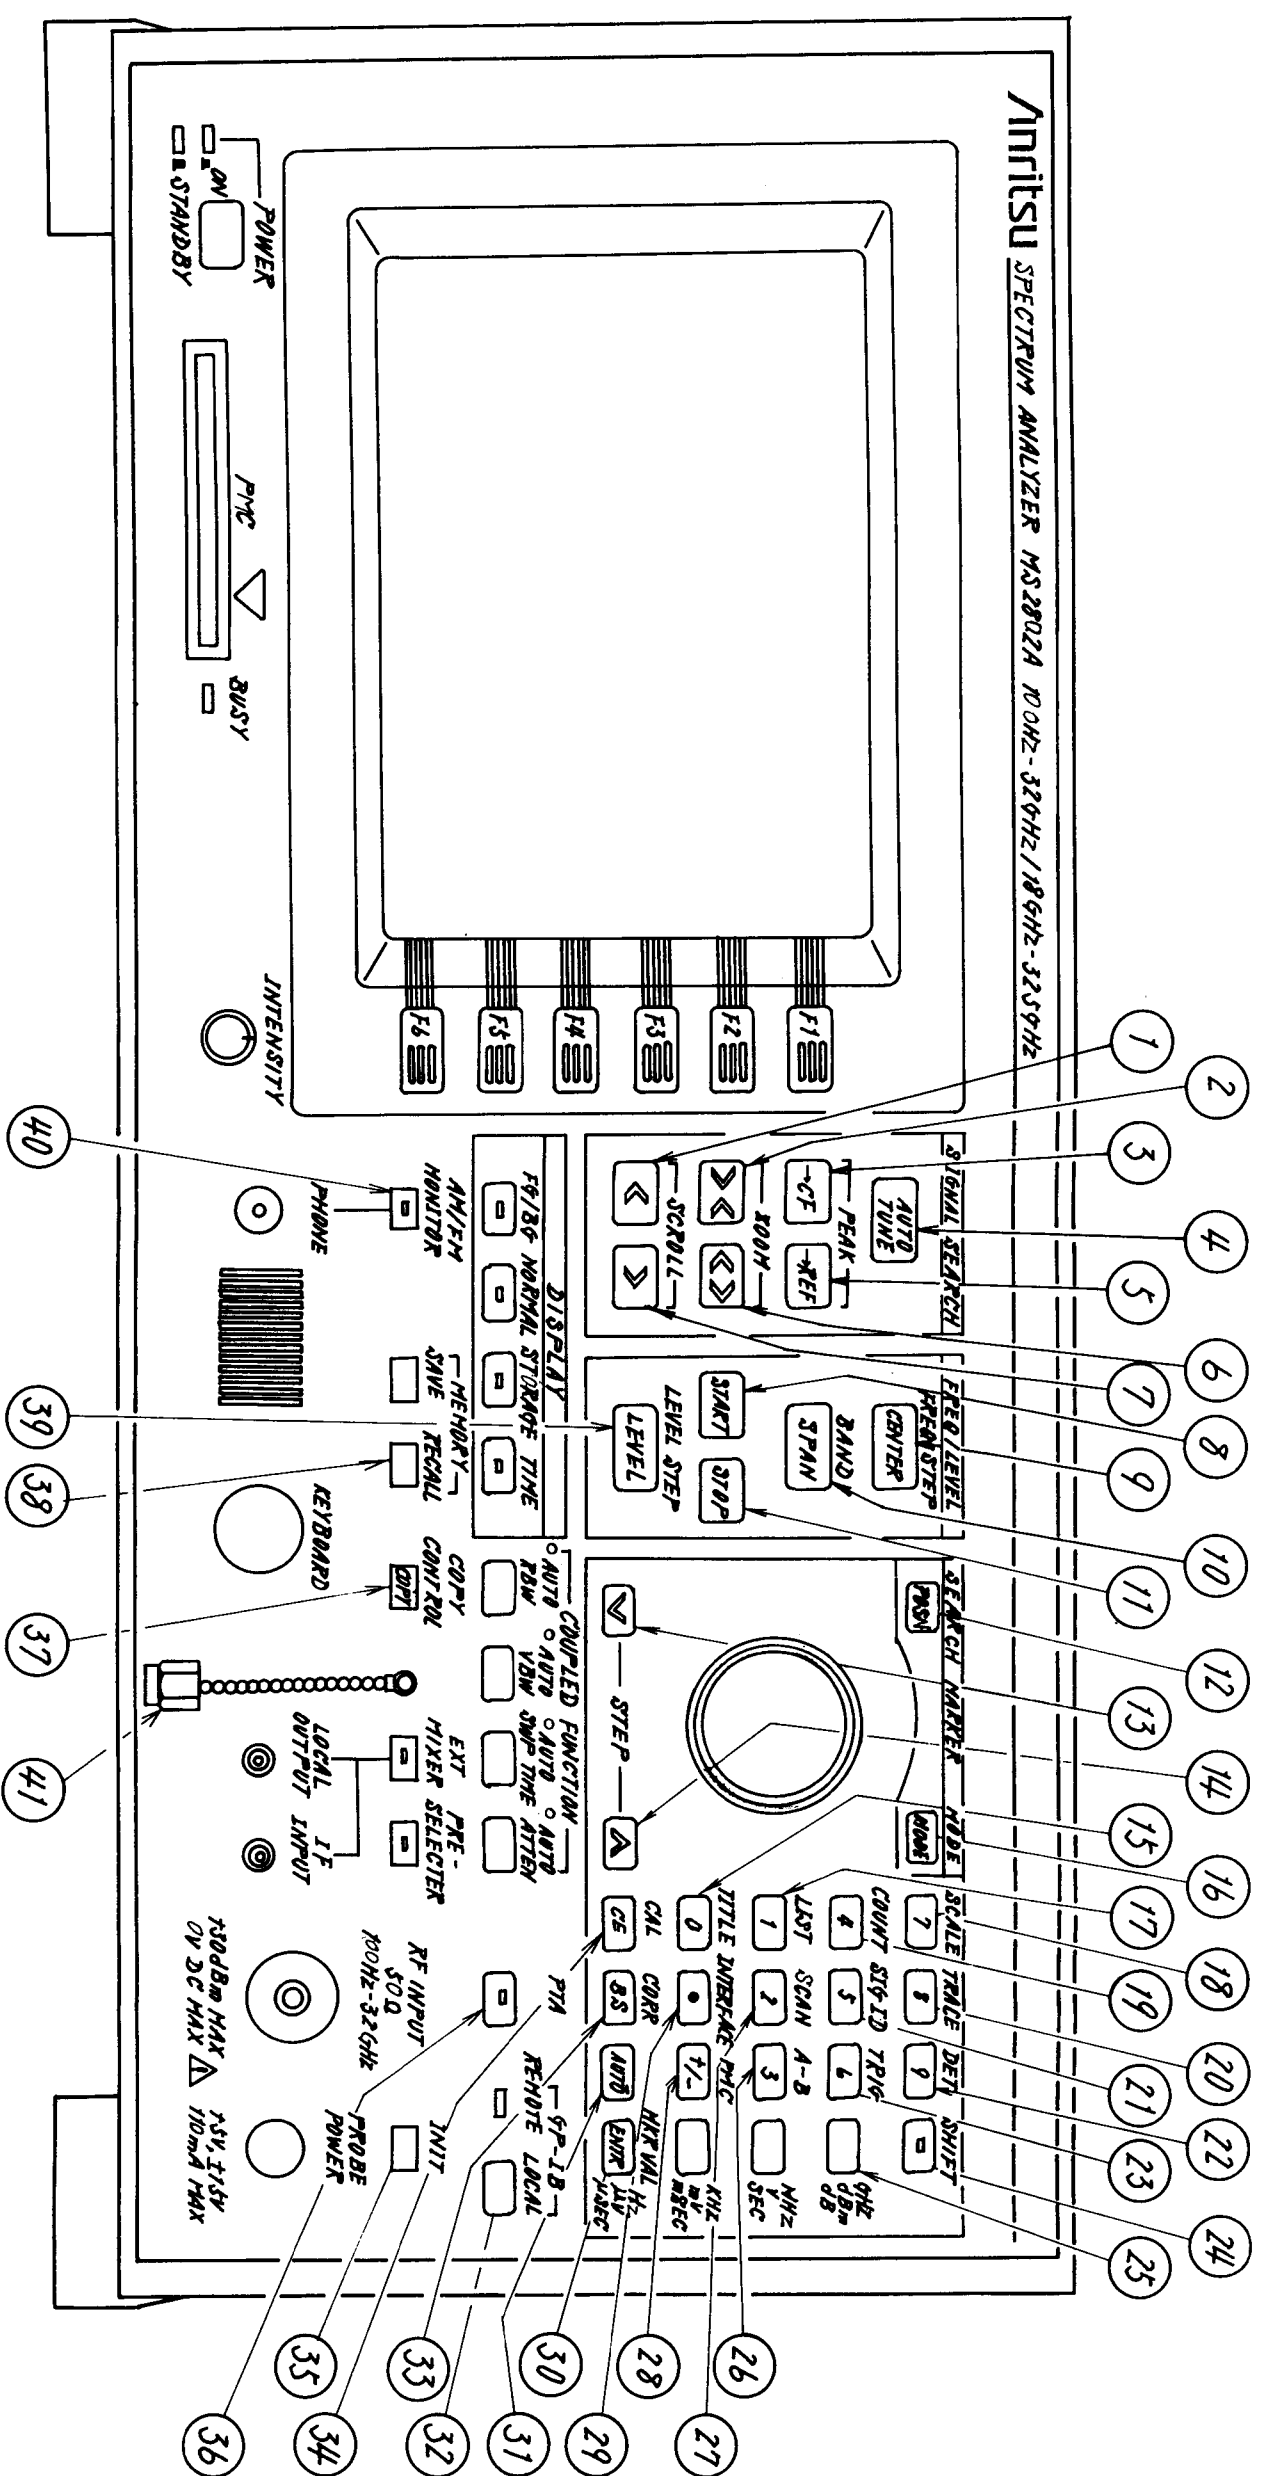

Fig. 5-2 Key Tops of the
(1) Key top removal (Figs. 5-2 and 5-3)
To replace the key tops shown in Figs. 5-2 (MS2802A) and 5-3 (MS2702A), remove the front panel and pull off the key tops by holding them with pliers.